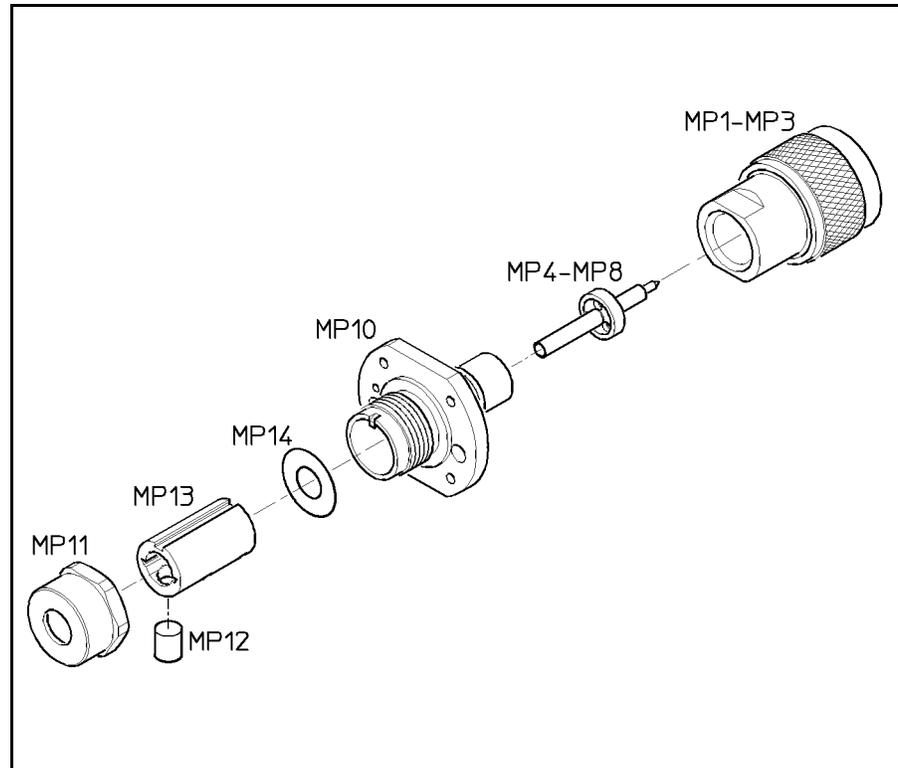

Figure 8. A1 Bulkhead Illustrated Parts Breakdown
7. Screw the bulkhead into the center pin assembly as shown in figure 8. Tighten in place to 50 ± 5 in-lbs (565 N-cm)
3. Position the Power Sensor as shown in figure 8 (top). The small hole **5** should be on the left side of the RF input connector. Remove the allen cap screws **1**, **2**, **10**, and **13**. Loosen **11** and **12**. Remove the upper chassis from the Power Sensor.